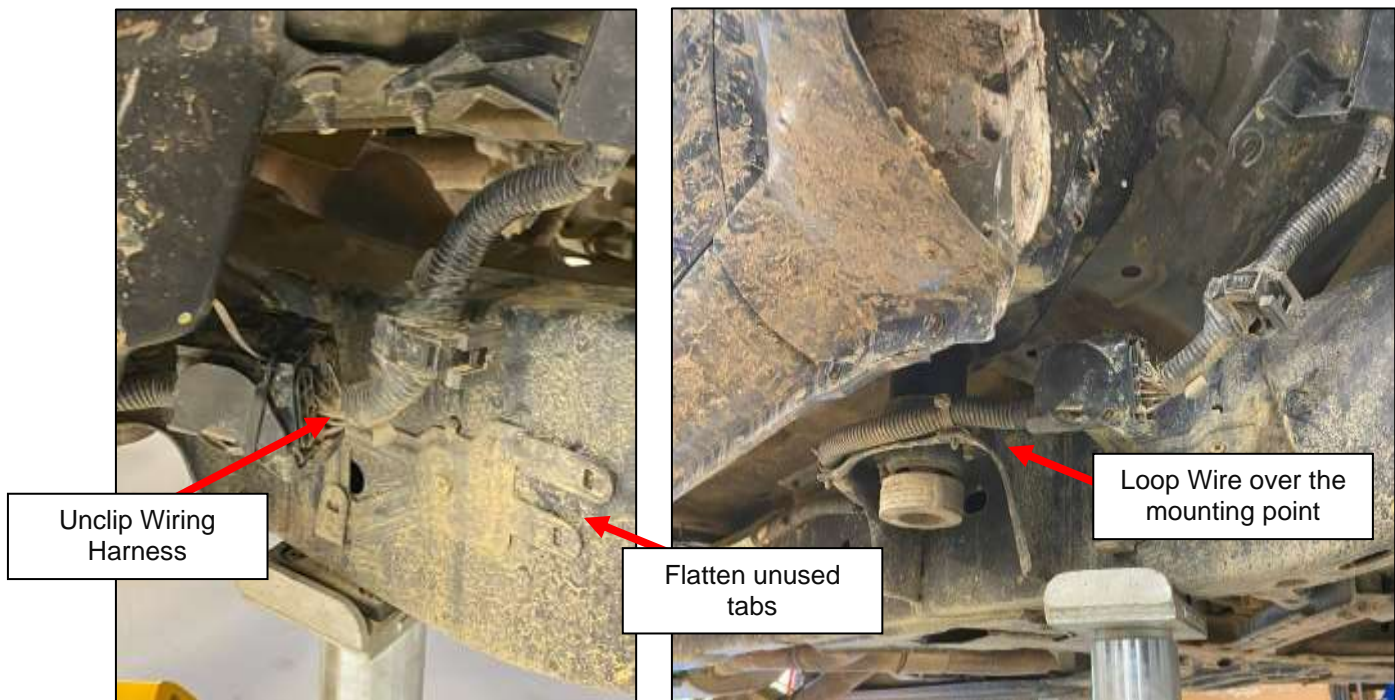

Figure 19
28. Tighten the (10) ten M12 x 170mm bolts, starting from the middle of the car outwards. After they are all tightened, torque them to **65 ft-lbs.**
29. Disconnect the clips of the Wiring Harness in the Passenger Side Wheel Well and flip the wiring harness over the Body to Frame mounting point as shown below. The Wiring Harness can be secured by using the OEM Clips, or zip ties. Using a hammer, flatten any unused tabs. *Figure 19.*